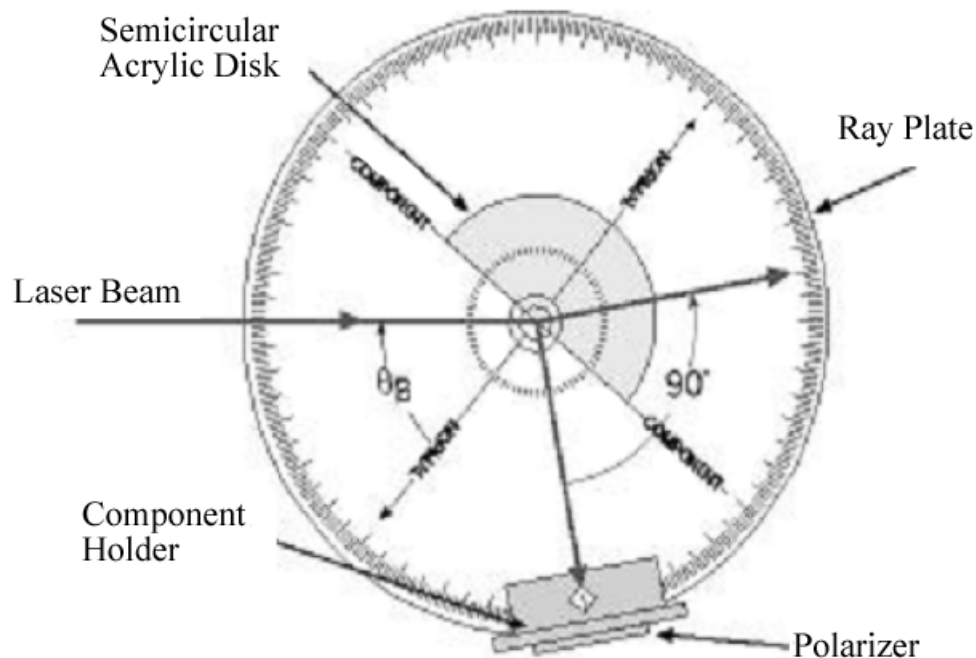

Figure 7
- 1 Set up the acrylic disk as in Part 1. Slowly rotate the ray table clockwise until the angle between the refracted and reflected rays is 90° (see Fig. 7). Record the angle of incidence as θ_{B1} . Without moving the acrylic disk, repeat the measurement (θ_{B2}), this time rotating the ray table counterclockwise.
- 3 Attach the polarizer to the ray table component holder and set it up on the ray table so that it is in line with the reflected ray (see Fig. 7). Observe the intensity of the light that passes